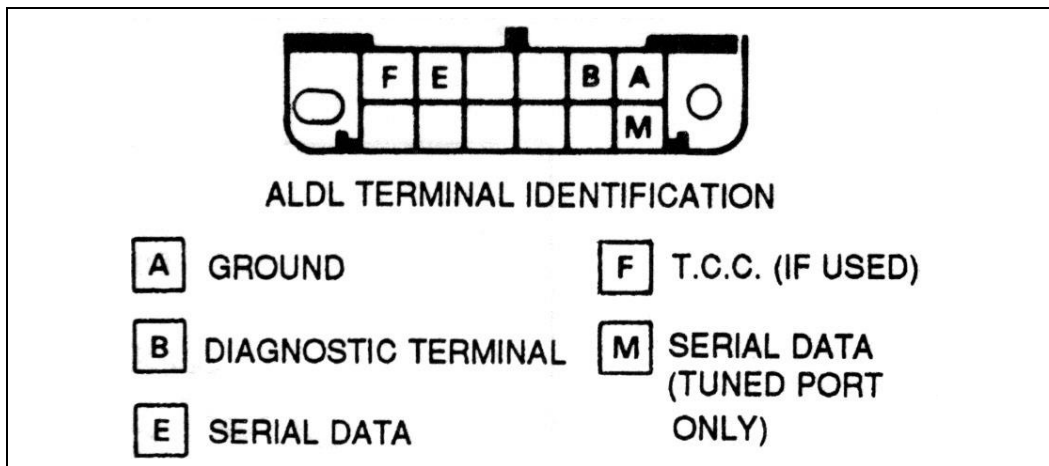

Figure 6.1 Assembly Line Diagnostic Link (ALDL) Connector
The wires in this group consist of the assembly line diagnostic link (ALDL) connector (See **Figure 6.1**), the check engine light (pre-installed into the ALDL mounting bracket), and four other wires.
7.2.1 In order to retrieve the trouble codes stored in the computer, locate the Assembly Line Diagnostic Link (ALDL) connector (installed and connected in **Paragraph 6.2.1**). Turn the ignition on, BUT DO NOT START THE CAR. Connect a jumper wire from ALDL terminal "A" to terminal "B" (see **Figure 6.1**) and observe the "check engine" light.